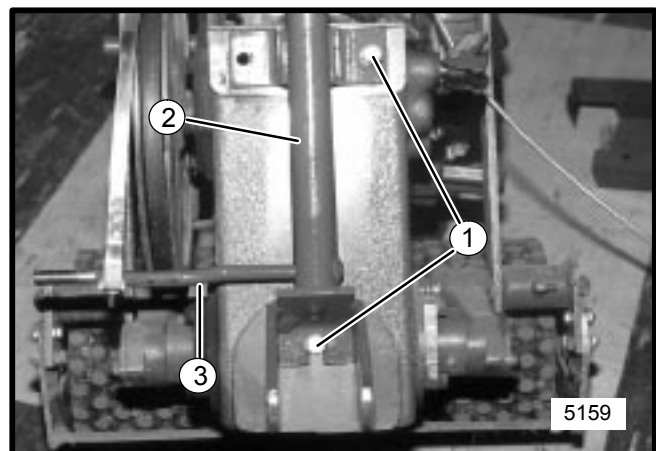
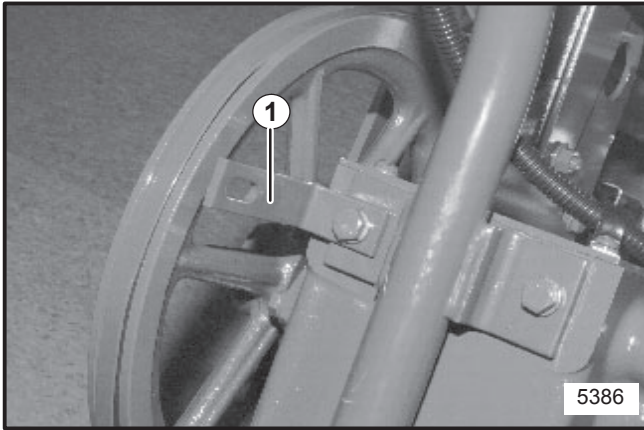

FIGURE 3
FIGURE 4
8. Remove and retain the upper two (2) screws and lockwashers from the rear of the gear case. Loosen the lower screw far enough to allow the handle bar to slide behind the screw and washer.
9. Apply Permatex gasket compound or an equivalent to the three screws (in step 9). Attach handlebar support to crankcase as shown in Figure 3 and attach the ^{AL} bracket shown in Figure 4. BE SURE slotted side of ^{AL} bracket is facing toward the large pulley (See Fig. 4).